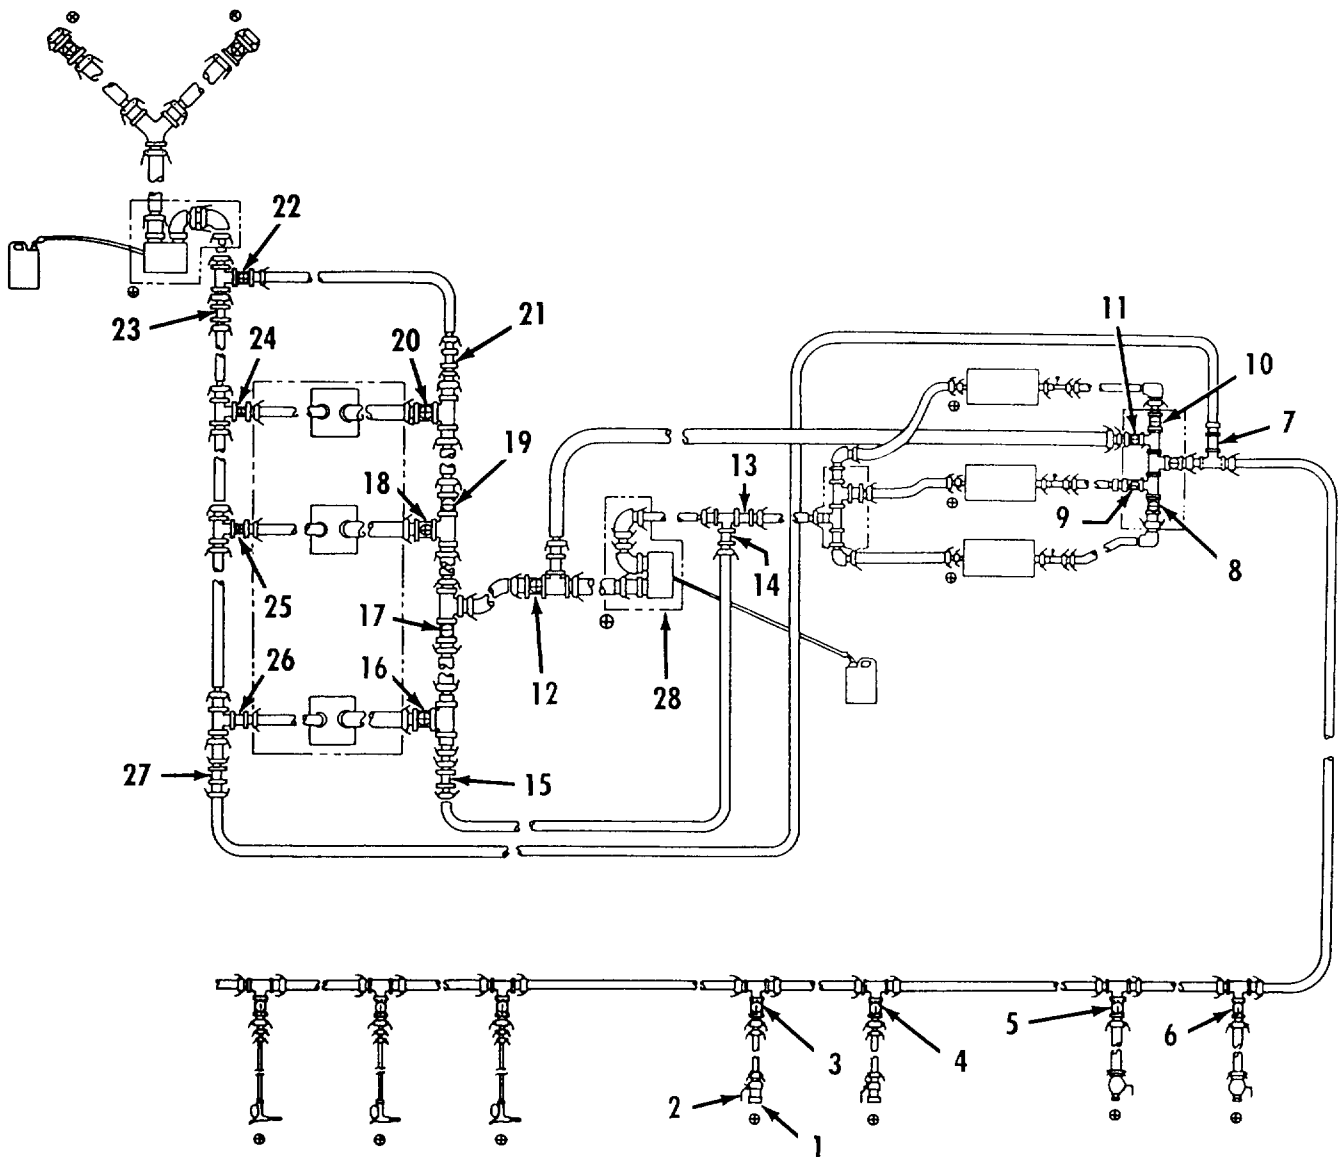

Figure 2-32. Defuel Mode - Tank Coupler on Drum Filling Points.
- (2) Defuel Mode - Tank Coupler on Drum Filling Points. Refer to figure 2-32.